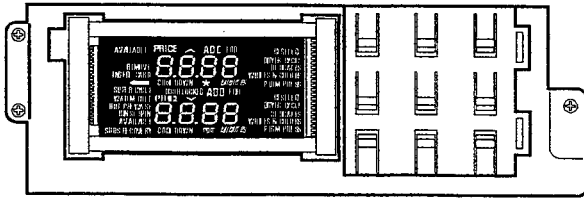

Figure 2-9
3. Remove the three screws securing the microprocessor to the console panel (*Figure 2-9*).